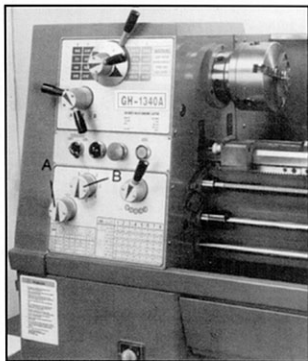

Fig.11
6. **Lock Knob**(A, Fig.11)-located on the front of the gearbox. With the lever in the six o'clock position, lead/feed selector knob (B, Fig.11) may be adjusted. With the lever in the twelve o'clock position, the lead/feed selector knob(B, Fig.11) is locked.
7. **Feed/Lead Selector Knob**(B, Fig.11)-located on front of the gearbox. Use for setting up for feeding and threading.